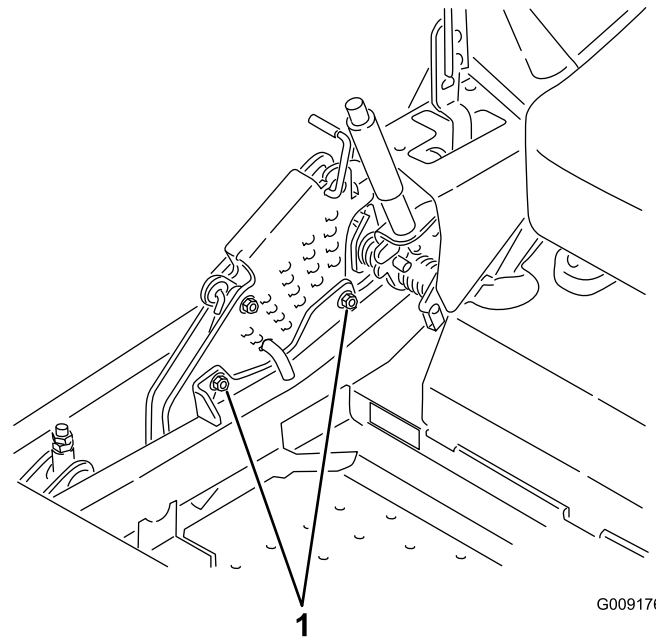

Figure 85
12. To adjust the single point system, loosen the two bolts at the bottom of the height of cut plate. Refer to Figure 85.
14. Tighten the two bolts at the bottom of the height of cut plate (Figure 85). Torque to 27-33 ft-lb (37-45 N-m).